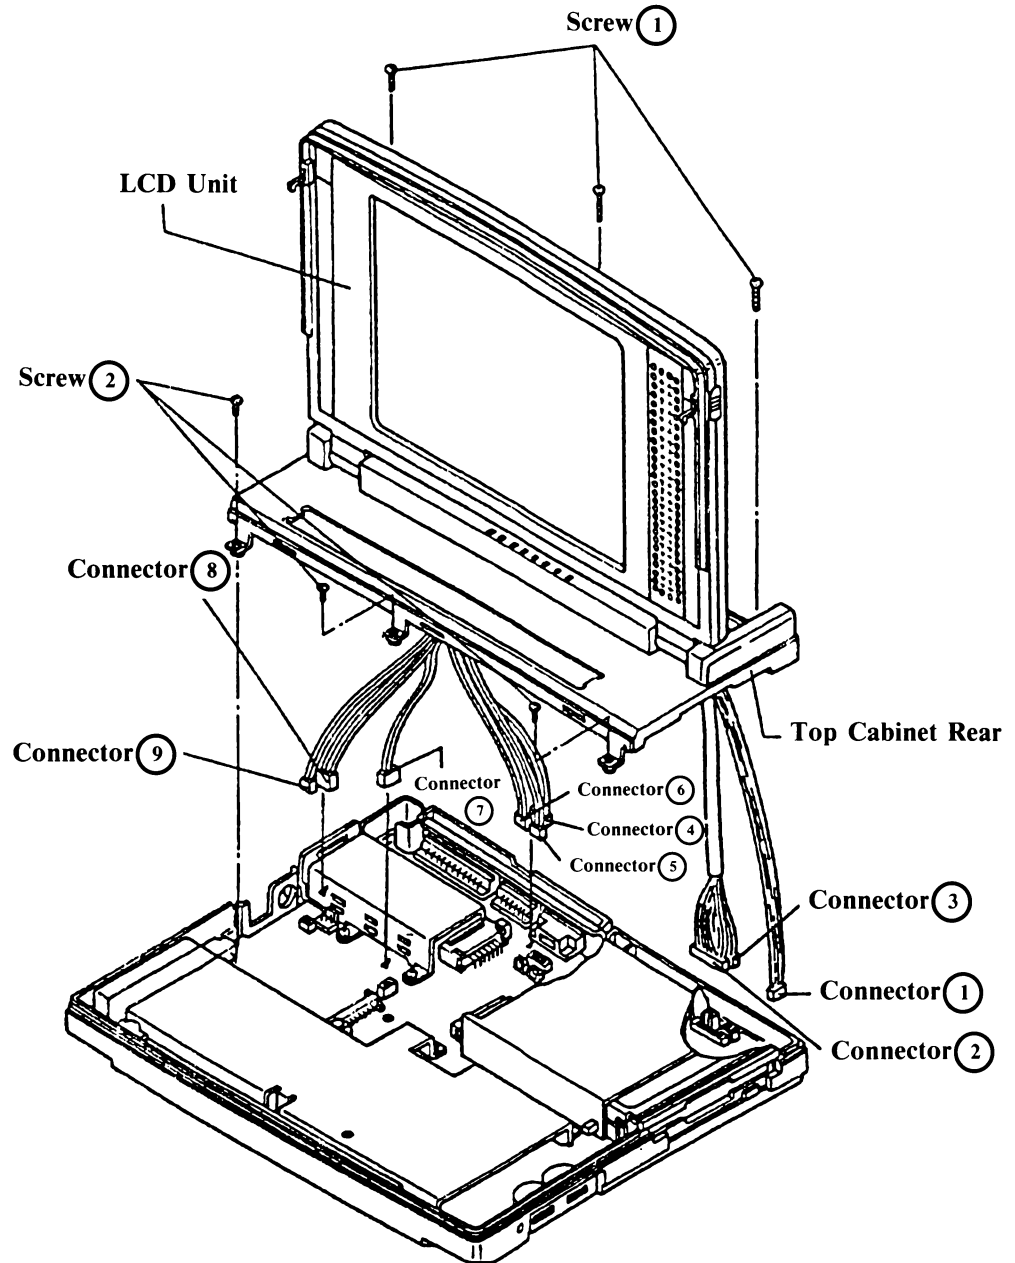

*Figure 3.4*
Remove the six screws (1) and (2) which hold Top Cabinet Rear in place. (Figure 3.4)